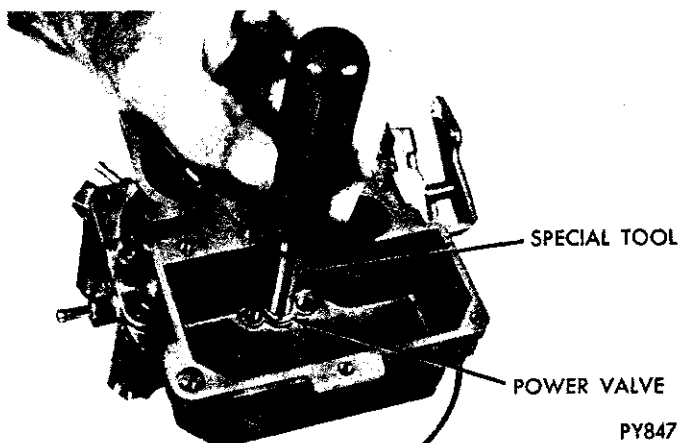

Fig. 13—Removing or Installing Power Valve
(17) Using Tool T109-73S, remove power valve assembly (Fig. 13).
(6) Install power valve, using Tool T109-73S (Fig. 13). Tighten securely.